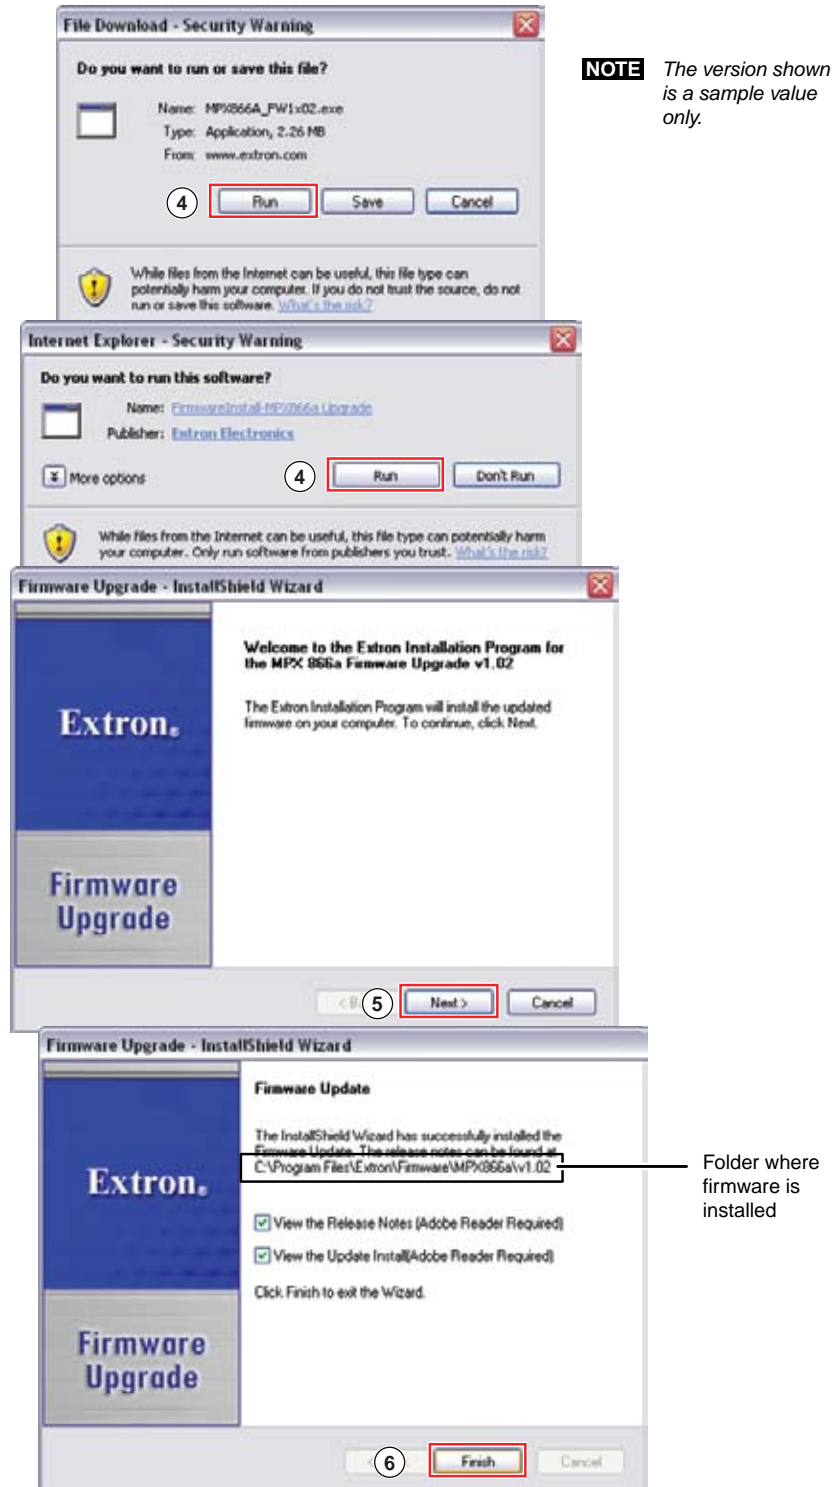

Figure 5-28 — Downloading firmware upgrade files
4. Click **Run** twice (figure 5-28). The PC downloads the firmware update from the Extron Web site and starts the Extron Installation Program to extract the firmware file.